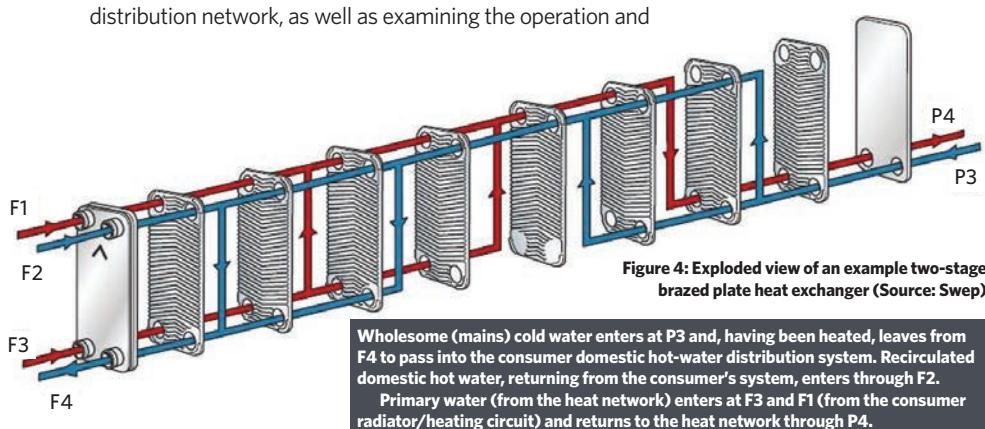

Figure 4: Exploded view of an example two-stage brazed plate heat exchanger (Source: Swep)
The proportions of heat used for preheating and final heating are determined in such a way as to make the most efficient use of the heat (exergy). If the building has a significant demand for hot water, this arrangement will typically result in a lower return temperature than would be the case from a parallel connection. The two-stage arrangement may be combined into a single brazed plate heat exchanger, as shown in Figure 4, that would look similar to Figure 5 when installed on site. This would provide the heart of a substation supplying the load for a residential or commercial building – replacing the traditional boiler and calorifier. The November 2017 CIBSE Journal CPD has further details of brazed plate heat exchangers.
4. Where does the primary flow from the heat network enter the heat exchanger in Figure 4?